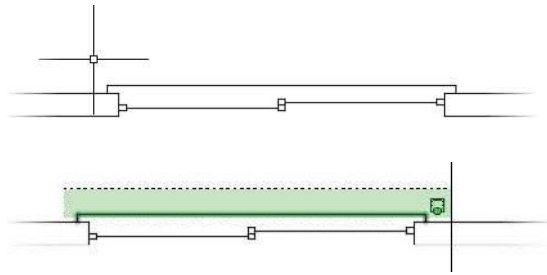

FIGURE 6.19: Starting the crossing selection window (top) and completing it (bottom)
- a. Hold the crosshair cursor above and to the right of the upper-right corner of the sliding glass door's threshold—still inside the perimeter of the deck—as shown on the top of Figure 6.19.
NOTE Figure 6.19 has been rotated 90° from the way it appears in your drawing.
- c. Move the cursor down and to the left until you have made a tall, thin crossing window that completely encloses the right edge of the threshold and is crossed on its left edge by the short, horizontal connecting lines, as shown on the bottom of Figure 6.19.